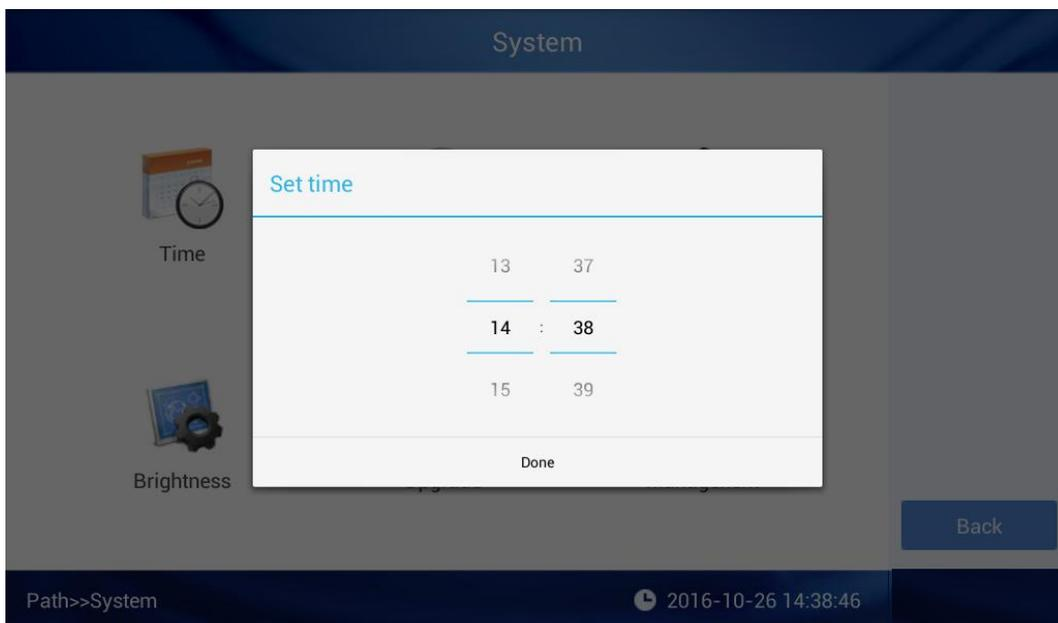

Fig 4.31 Time setting
②Click to enter the interface as Fig 4.31, sliding to set the time.